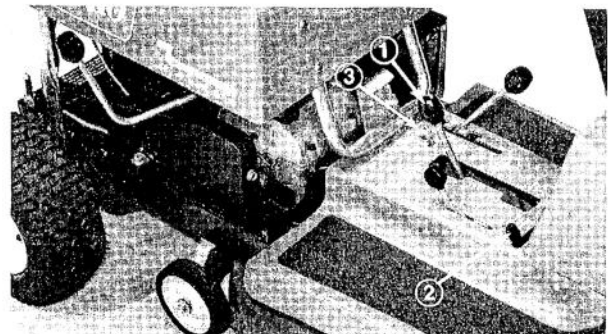

Figure 44
4. Move blade control to the left, backward, to the right and into DISENGAGE detent (Fig. 44). Sit on the seat, engage the parking brake, depress clutch pedal, shift into gear and hold clutch pedal in depressed position. Rotate ignition key to START. Engine should not start; but if it does, the interlock system is malfunctioning and must be repaired by an Authorized TORO Service Dealer. If engine does not start, proceed to step 5.